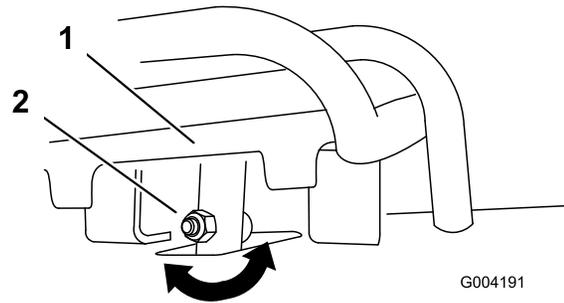
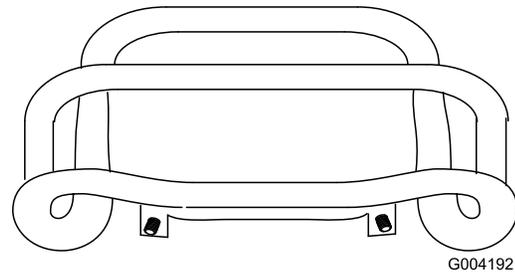

Figure 45
Figure 46
4. If the front of the traction control does not rest square and flush with the reference bar, loosen the flange nut and bolt in the stem of the traction control (Figure 45).
5. Adjust the traction control so that it rests flush against the reference bar when it is pulled straight back (Figure 45 and Figure 46).